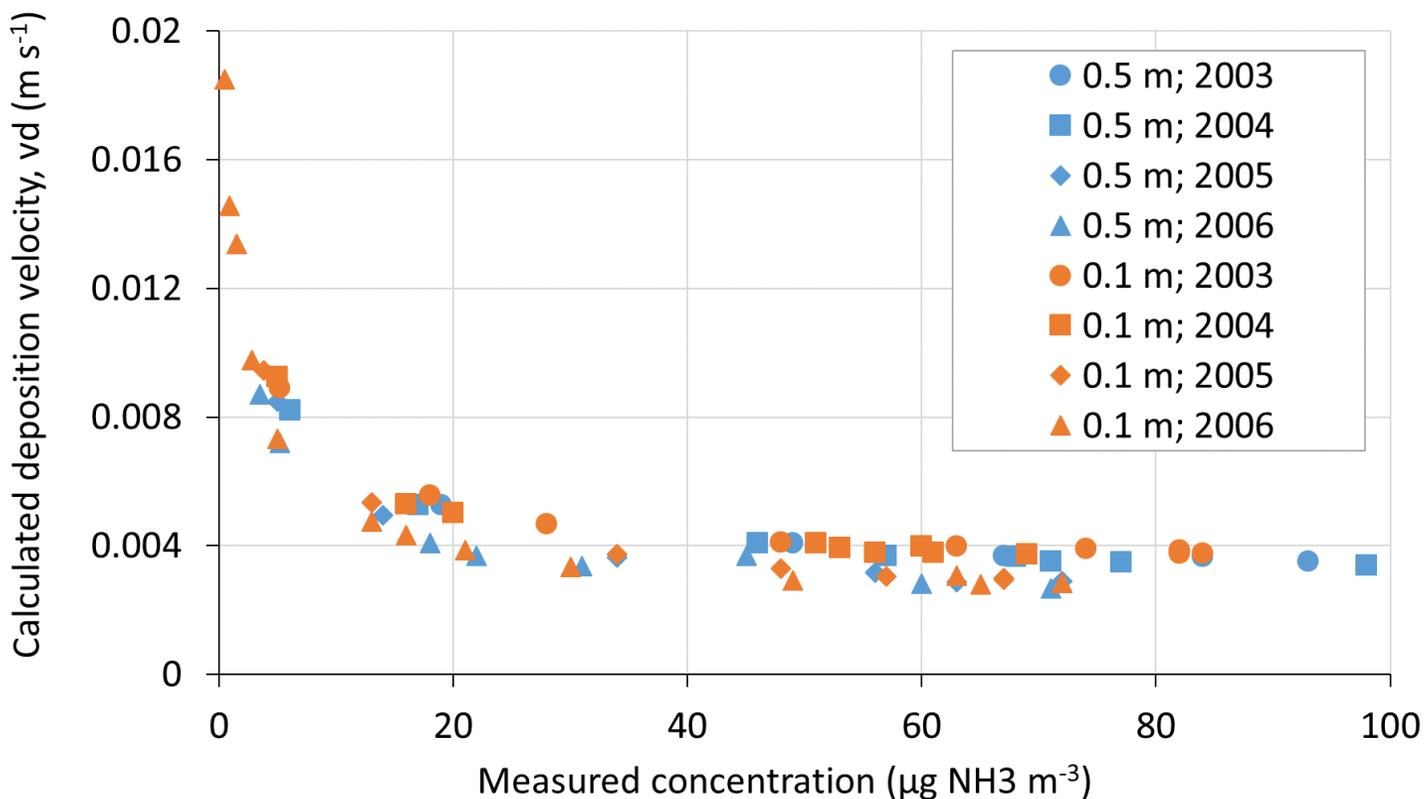

Figure 1. Multi-year, annual average  $\text{NH}_3$   $v_d$  estimates against ambient concentrations at two heights (0.1 m and 0.5 m)3
- At high near-ground concentrations,  $\text{NH}_3$  deposition is inhibited e.g. Figure 1